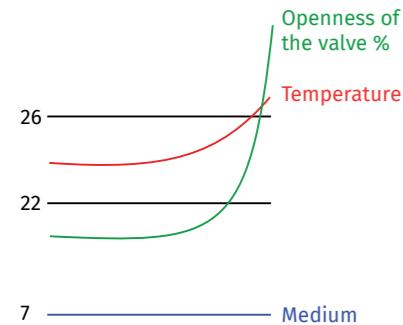

Figure 7. Trend display on the BMS system during valve failure
b) improper operation of the valve on the heat exchanger line (see Figure 7):